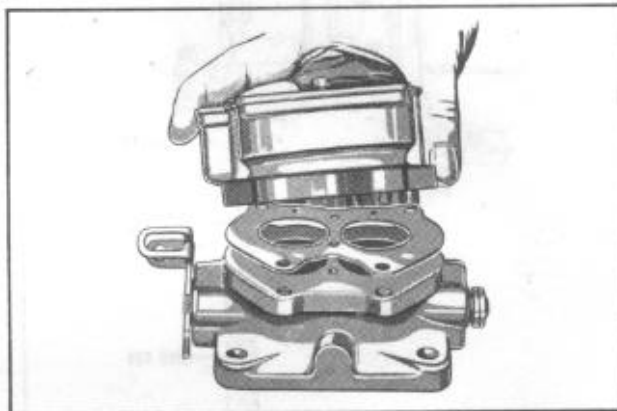

FIGURE 56
4. Remove the body flange screws and re-move the body flange assembly and gasket, Figure 56.